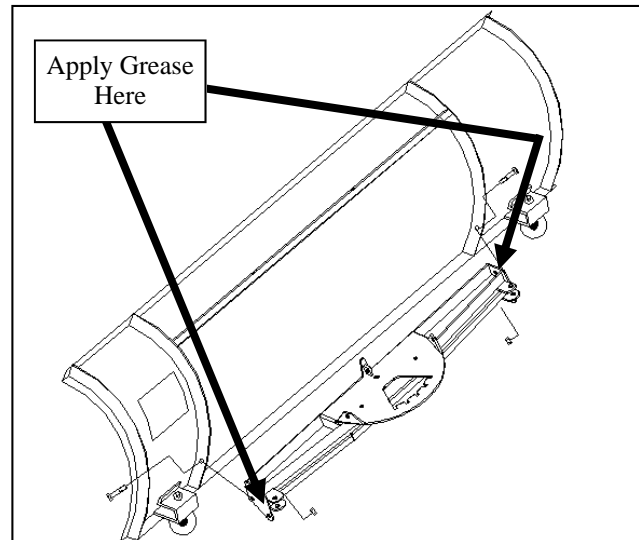

Fig. 4.1—Trip Frame to Moldboard
- 4.1. Per fig 4.1, locate the steel moldboard, trip frame, two 1/2-13 x 2" bolts, and two 1/2-13 Nylock locking nuts. Apply all-season grease to the mating surfaces on the trip frame and moldboard rib. As shown, line up the mounting hole in the trip frame with the mounting hole on the moldboard rib (near the bottom). Install into the mounting holes a 1/2-13 x 2" bolt as shown. Install a 1/2-13 Nylock nut on the back side of the bolt. Repeat installation of hardware for the right side, orienting the bolt head to face away from the center of the moldboard. Tighten the Nylock nuts until all thread slack is removed from the assembly while allowing the trip-frame to rotate freely.